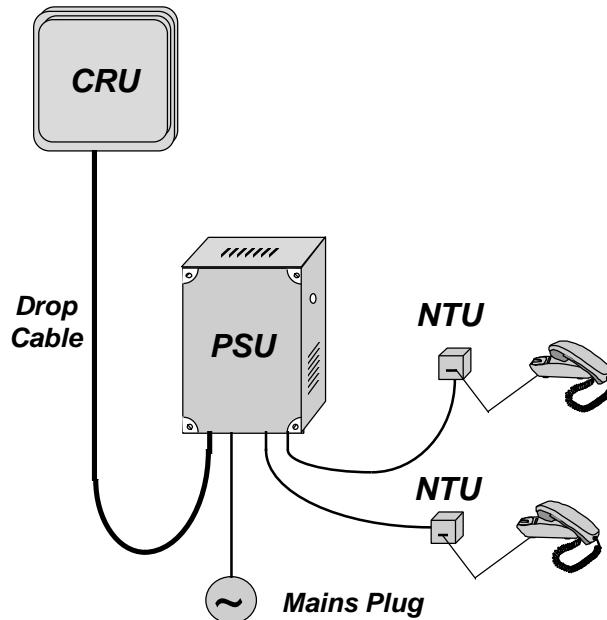

Figure 20. AS4000 ST-V2 Connection
- 2 x 2 wire VF connectors ST-V2 (see Figure 20)